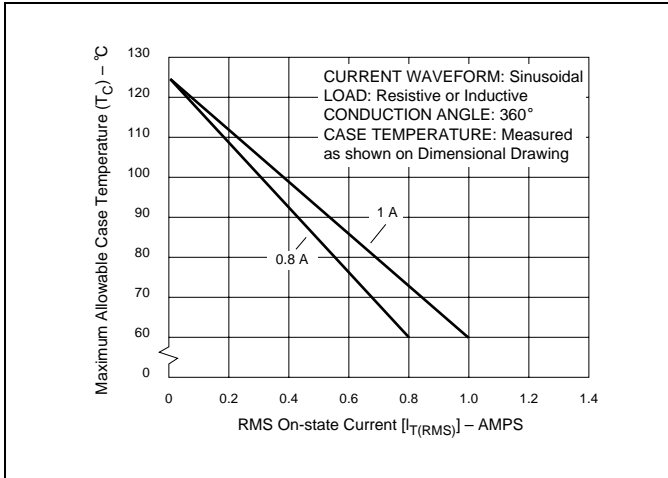
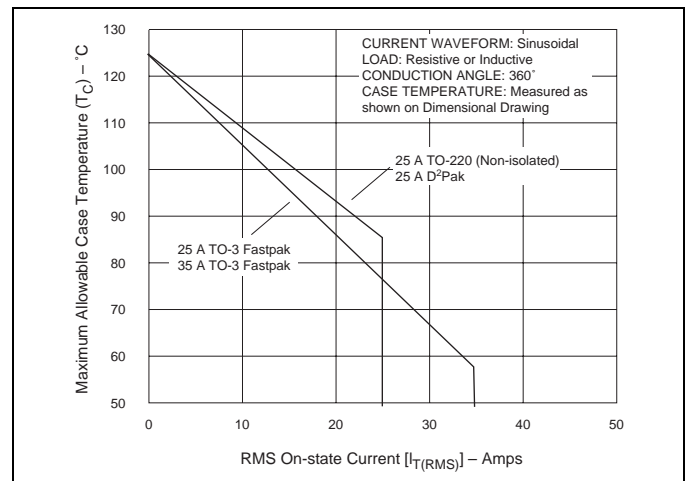
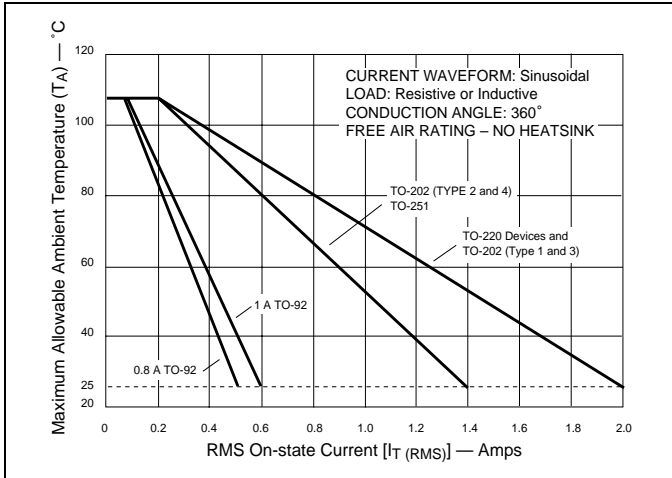

Figure E2.1 Maximum Allowable Case Temperature versus On-state Current (0.8 A and 1 A)
Figure E2.6 Maximum Allowable Case Temperature versus On-state Current (25 A and 35 A)
Figure E2.7 Maximum Allowable Ambient Temperature versus On-state Current
- (1) For either polarity of MT2 with reference to MT1 terminal
- (2) For either polarity of gate voltage (V_{GT}) with reference to MT1 terminal
- (3) See Gate Characteristics and Definition of Quadrants.
- (4) See Figure E2.1 through Figure E2.7 for current rating at specific operating temperature.
- (11) See package outlines for lead form configurations. When ordering special lead forming, add type number as suffix to part number.
- (12) Initial on-state current = 200 mA dc for 0.8 A to 10 A devices, 400 mA dc for 15 A to 35 A devices
- (13) See Figure E2.1 through Figure E2.6 for maximum allowable case temperature at maximum rated current.
- (14) Pulse width ≤ 10 μs; I_{GT} ≤ I_{GTM}
(15) R_L = 60 Ω for 0.8 A to 10 A triacs; R_L = 30 Ω for 15 A to 35 A triacs
(16) T_C = T_J for test conditions in off state
(17) I_{GT} = 300 mA for 25 A and 35 A devices
(18) Quadrants I, II, III only
(19) Minimum non-trigger V_{GT} at 125 °C is 0.2 V for all except 50 mA MAX QIV devices which are 0.2 V at 110 °C.